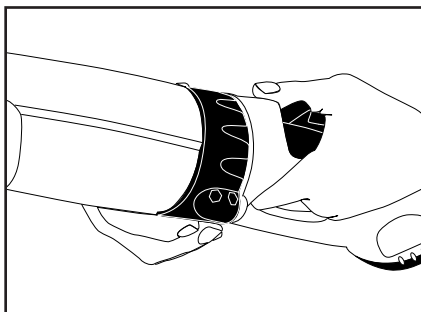

Figure 5
3. Grasp the tool attachment firmly with one hand (note, do not grasp on a rotating part such as the auxiliary handle), and twist the lock ring on the power handle to the locked position with the other hand. (see figure 5)